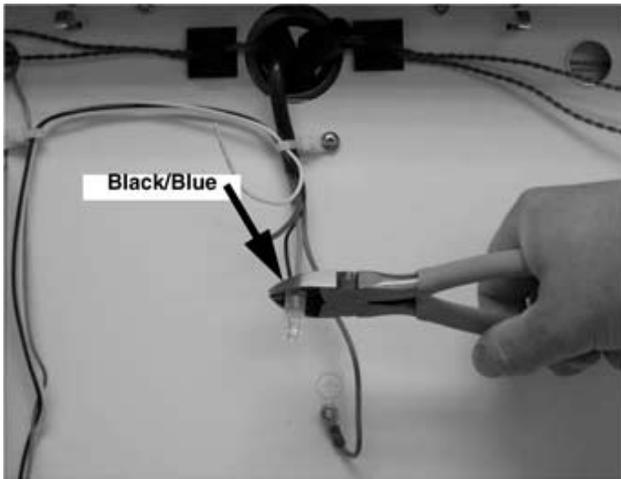

Figure 20.
- Cut black/blue connector see Figure 20.